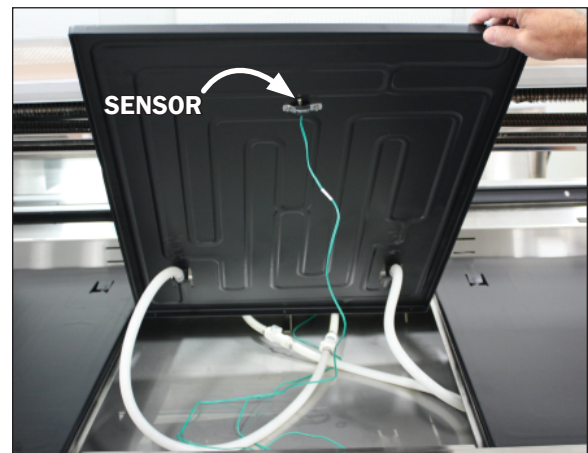

Fig. 19 Coolgenix pan sensor
2. Remove the pan sensor (Fig. 19) located on the center deck pan by sliding the sensor out of the bracket attached to the bottom side of the Coolgenix pan.